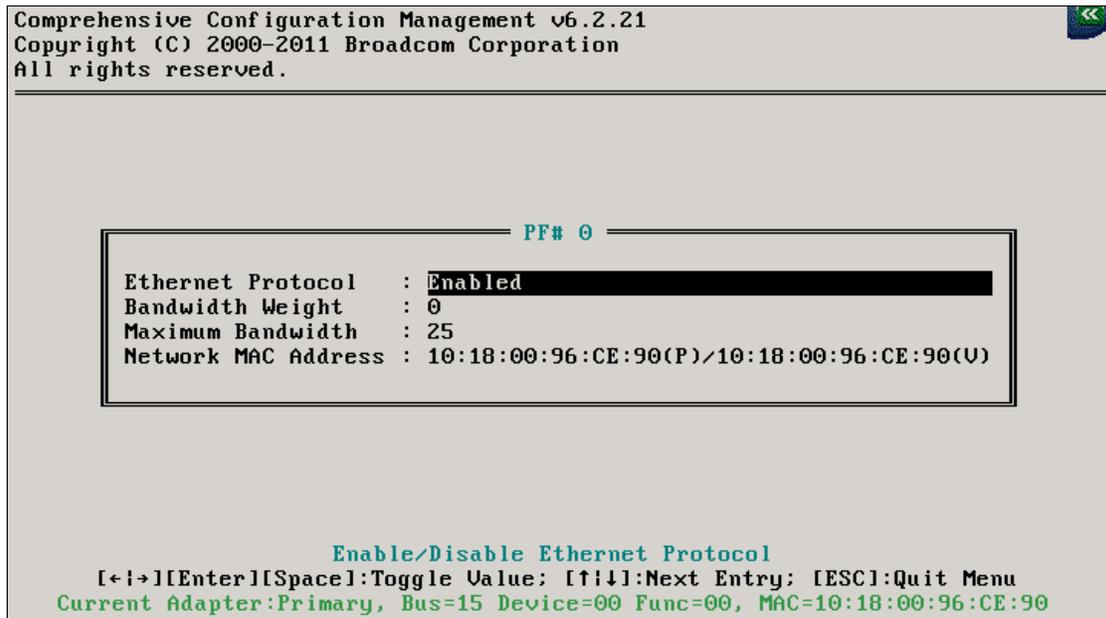

Figure 9-16 Partition function menu
7. In the PF# 0 panel (Figure 9-16), configure the bandwidth parameters: